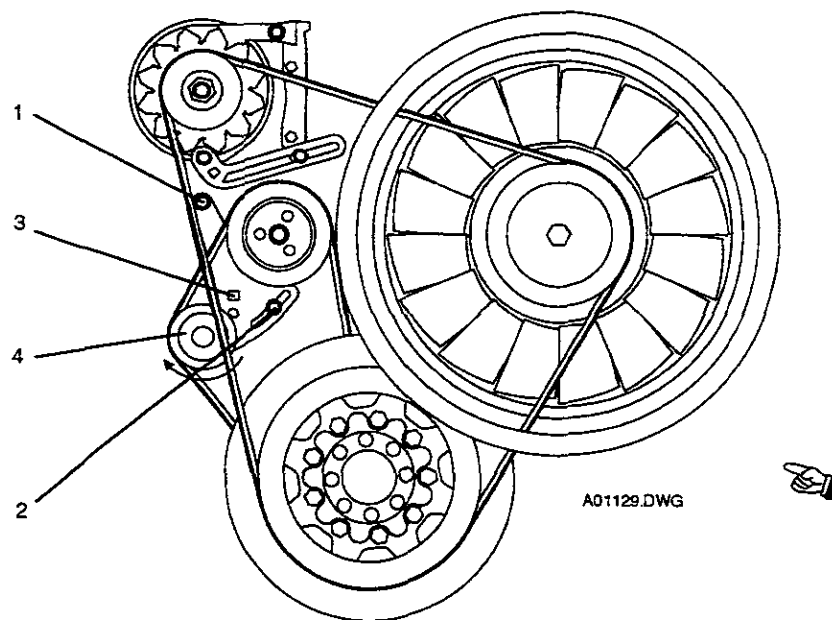

FIGURE 2. COOLANT FUEL PUMP BELT ADJUSTMENT POINTS
- (1) Loosen bolts (1 and 2, Figure 2).
- (2) Insert square wrench in square (3).
- (3) Push fuel pump (4) in direction of arrow until correct belt tension is achieved.
- (4) Tighten bolts (1 and 2). Remove warning tag. Return unit to service.